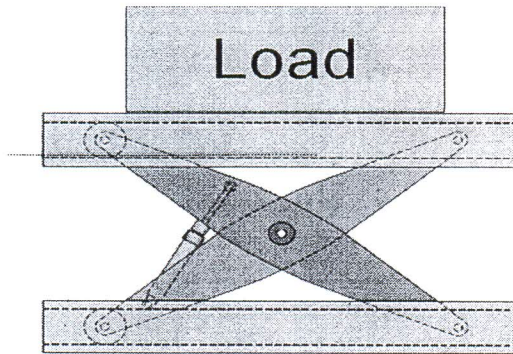

Figure 6
- (a) A scissor lift (figure 6) is used to lift heavy loads to the platforms of varying heights. The loaded lift must be able to remain at given height over a long period of time. The lift is powered by a double acting cylinder.